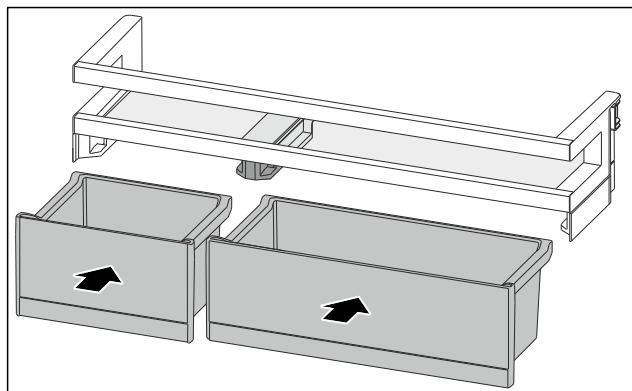

Fig. 169
- Insert the VarioBoxes in reverse order. (see Fig. 169)